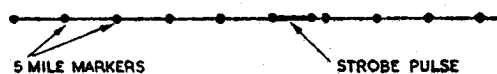

Fig. 45. Indicating unit Type 123 : radar trace
- (1) Operate the TIMEBASE WIDTH control (timebase unit Type 42) to obtain the correct number of calibration pips on the radar (lower) trace (i.e., 15 pips for 75 miles, 30 pips for 150 miles). The first pip corresponds to a range of 5 miles.
- (2) Use the X SHIFT and VELOCITY controls on indicating unit Type 123 to align the calibrator pips with the range scale. There are two velocity controls behind the front panel at the left-hand side of the chassis: VELOCITY COARSE is a two-position switch, and VELOCITY FINE a potentiometer.
- (3) Rotate the STROBE control (console 1) until the brightened portion of the trace on indicating unit Type 123 lies on a calibrator pip at about the centre of the timebase.
- (4) Adjust EXPANSION WIDTH (timebase unit Type 42) so that the width of the expanded (brightened) portion of the timebase occupies a range of three miles. An estimate of this distance can be made by comparing the width of the trace from the end of the brightened portion to the next calibration pip with the distance occupied by two miles of normal trace.
- (5) Adjust EXPANSION (timebase unit Type 42) so that the three mile strobe occupies one centimetre of trace. The appearance of the correctly adjusted strobe is shown in *fig. 45*.